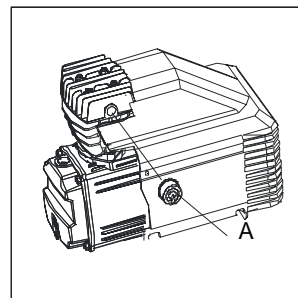

Figure 3
4. Unpack the smaller plastic bag with the air filter included and have the air filter (A) assembled on the pump. (See Figure 3)